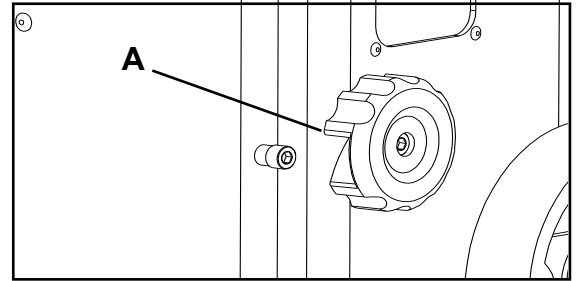

Figure 17
- i) Close and lock both the wheel doors (A-Fig.17) before reconnecting the power supply.